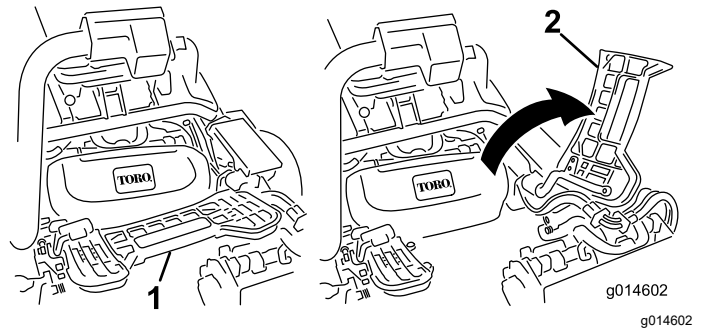

Figure 51
1. Lift up on the footrest and swing it open, allowing access to the center cutting unit position (Figure 51).